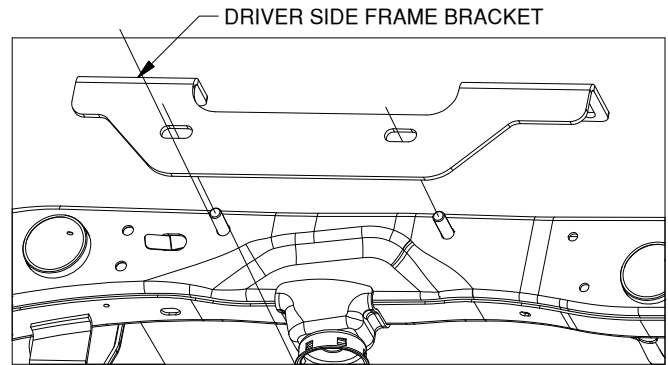
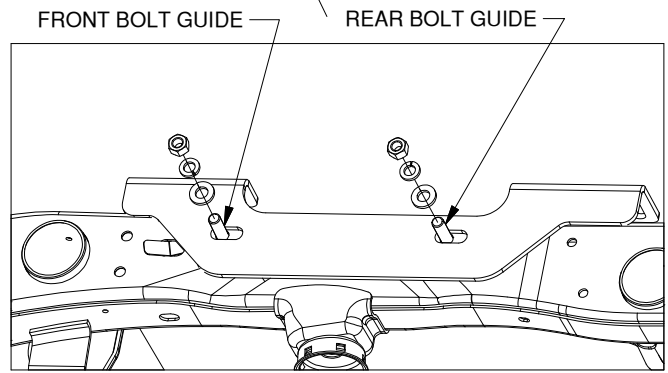

Figure B9: View from outside of driver side frame.
Figure B10: View from outside of driver side frame.
- 3. Install the frame brackets.** Place each frame bracket onto the 5/8" bolts held in place by the bolt guides, see figure B9. Attach the frame brackets to the frame with a flat washer, lock washer, and nut, see figure B10. Do not tighten the mounting hardware at this time.